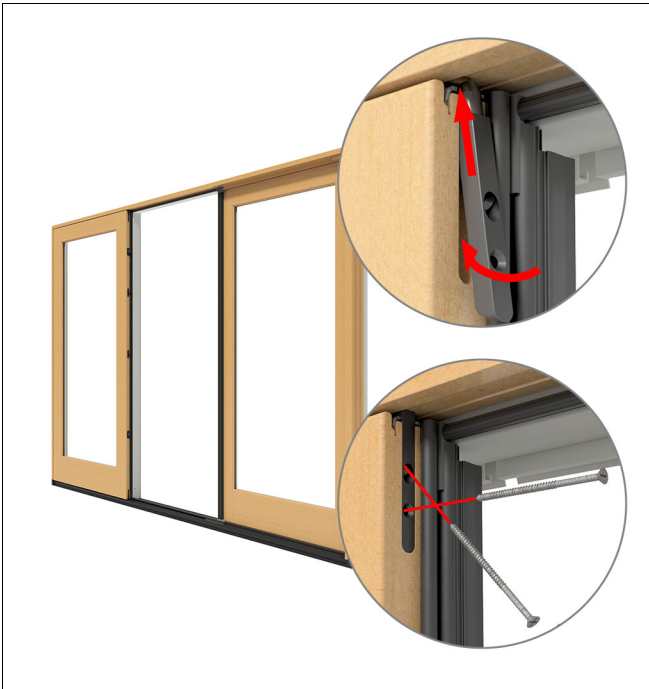

Figure 36
**14.** Install the end of the stationary bolt into the head jamb plate. Slide the bolt into place and fasten to the stationary panel with the two #8 x 3" screws. Note that the top screw is installed at an angle. See Figure 36.